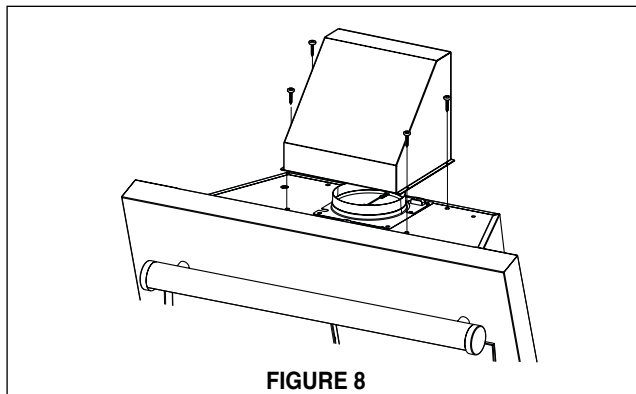

FIGURE 8
1. For rear ducted installations, attach the rear chimney transition to the top of the rangehood (**FIGURE 8**) with the 4 screws provided.